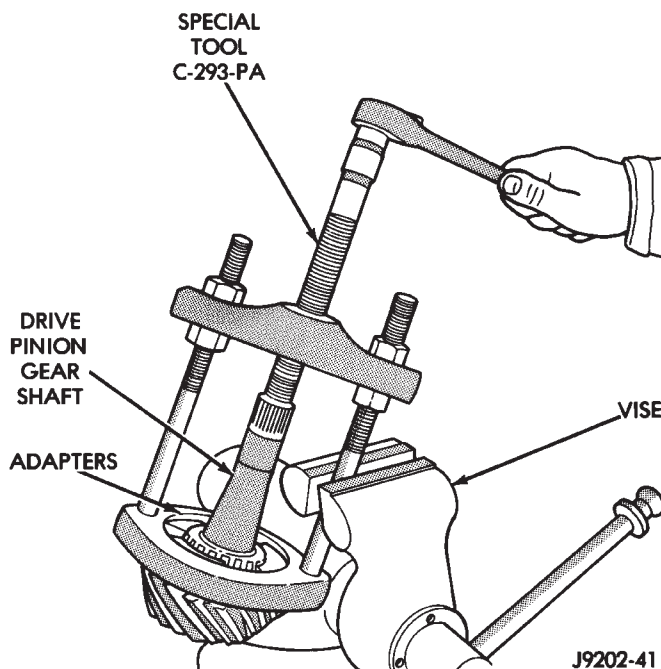

Fig. 28 Rear Bearing Removal
(12) Remove the rear bearing from the pinion with Puller/Press C-293-PA and Adapters C-293-40 (Fig. 28).